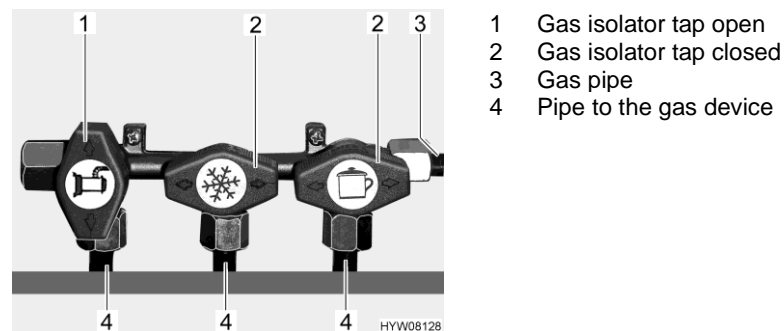

Fig. 87 Gas isolator taps position (example)
- Position the gas isolator tap of the corresponding gas device parallel (Fig. 87,1) to the pipe (Fig. 87,4) leading to the gas device.
- Position the gas isolator tap of the corresponding gas device transverse (Fig. 87,2) to the pipe (Fig. 87,4) leading to the gas device.